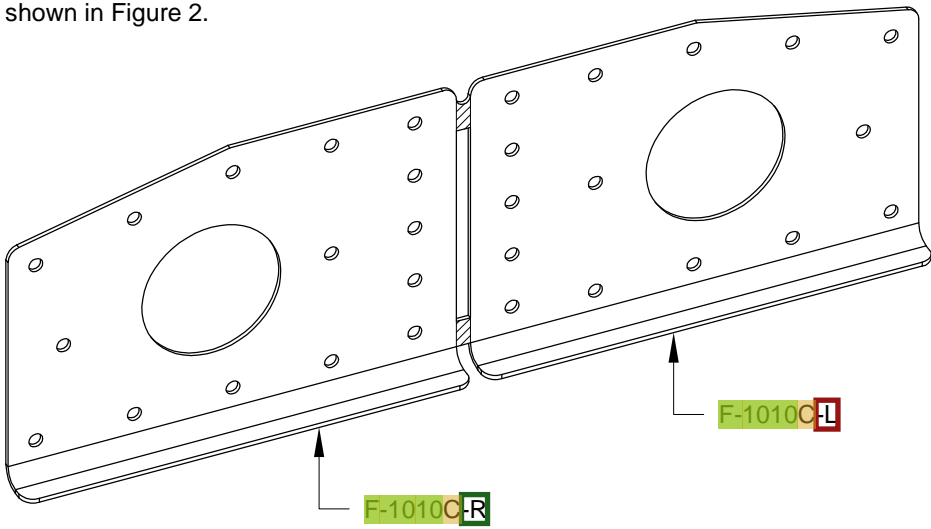

FIGURE 2: SEPARATING THE F-1010C BULKHEAD DOUBLER
Step 2: Separate the F-1010C Bulkhead Doubler into left and right parts by removing the shaded areas shown in Figure 2.